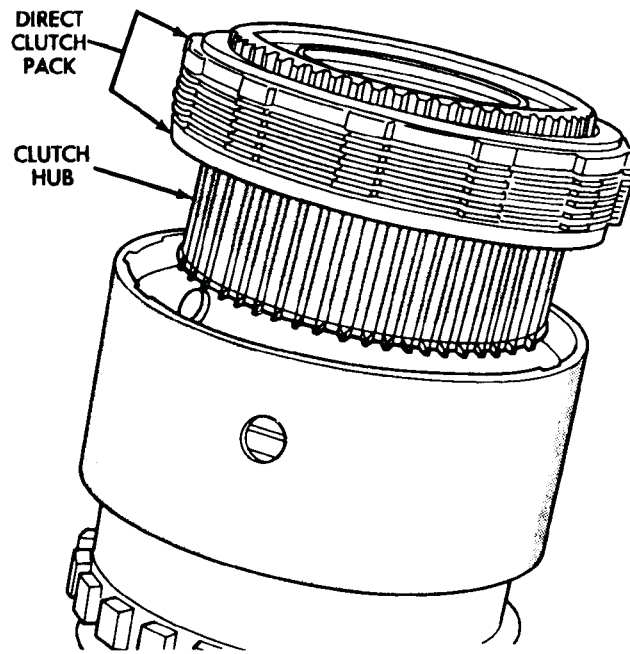

Fig. 59 Installing Assembled Direct Clutch Pack And Hub
(22) Install clutch hub and clutch pack on direct clutch spring (Fig. 59).